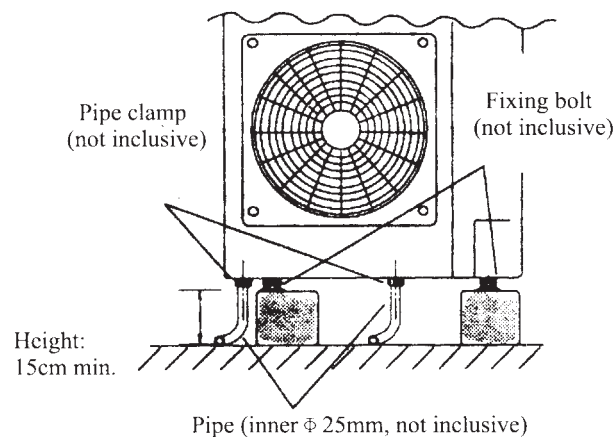

Fig. 20
- (1) Choose a place for outdoor unit installation as described in 7.1
- (2) Cushion the unit with bricks or strong base at least 15cm thick. (see Fig 20)
- (3) Use four bolts to fix the unit firmly to the bricks or base.